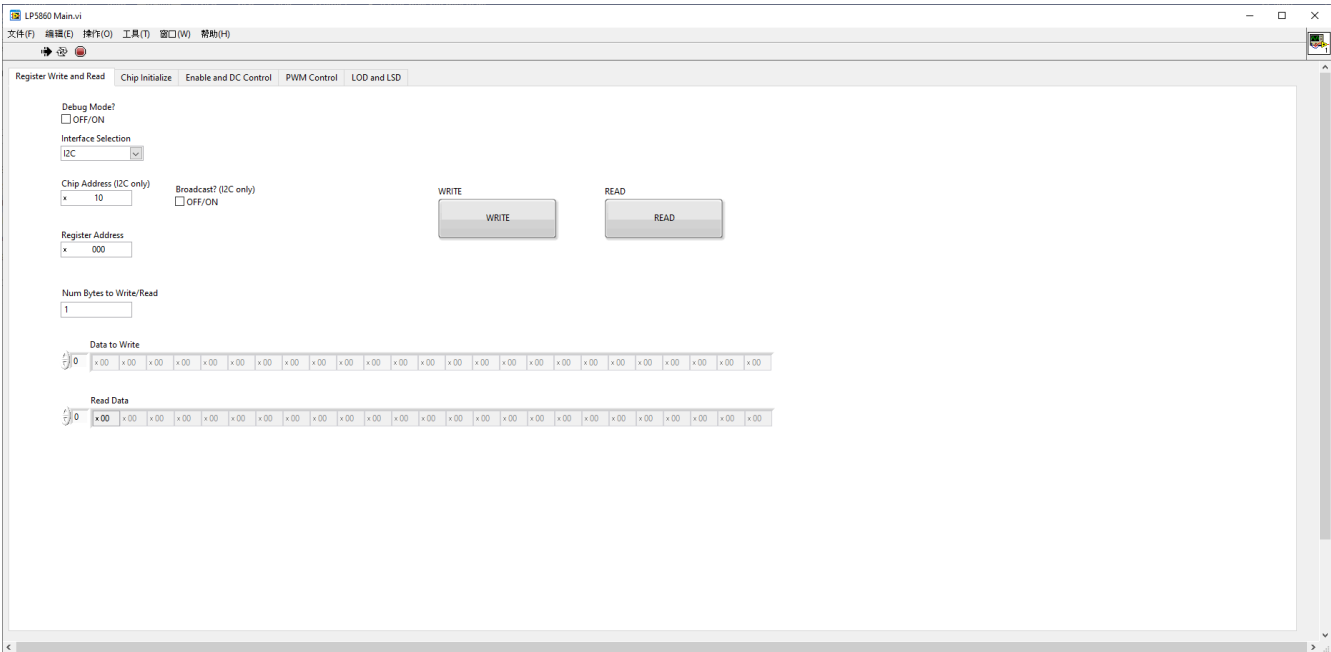

Figure 3-3. LP5867EVM GUI First Debug Step
2. Modify the *Num Bytes to Write/Read* field to 1 and select the *Read* button to successfully connect the EVM board to the USB2ANY (see Figure 3-3). The *Read Data* field returns data 0x00 if there are no errors.